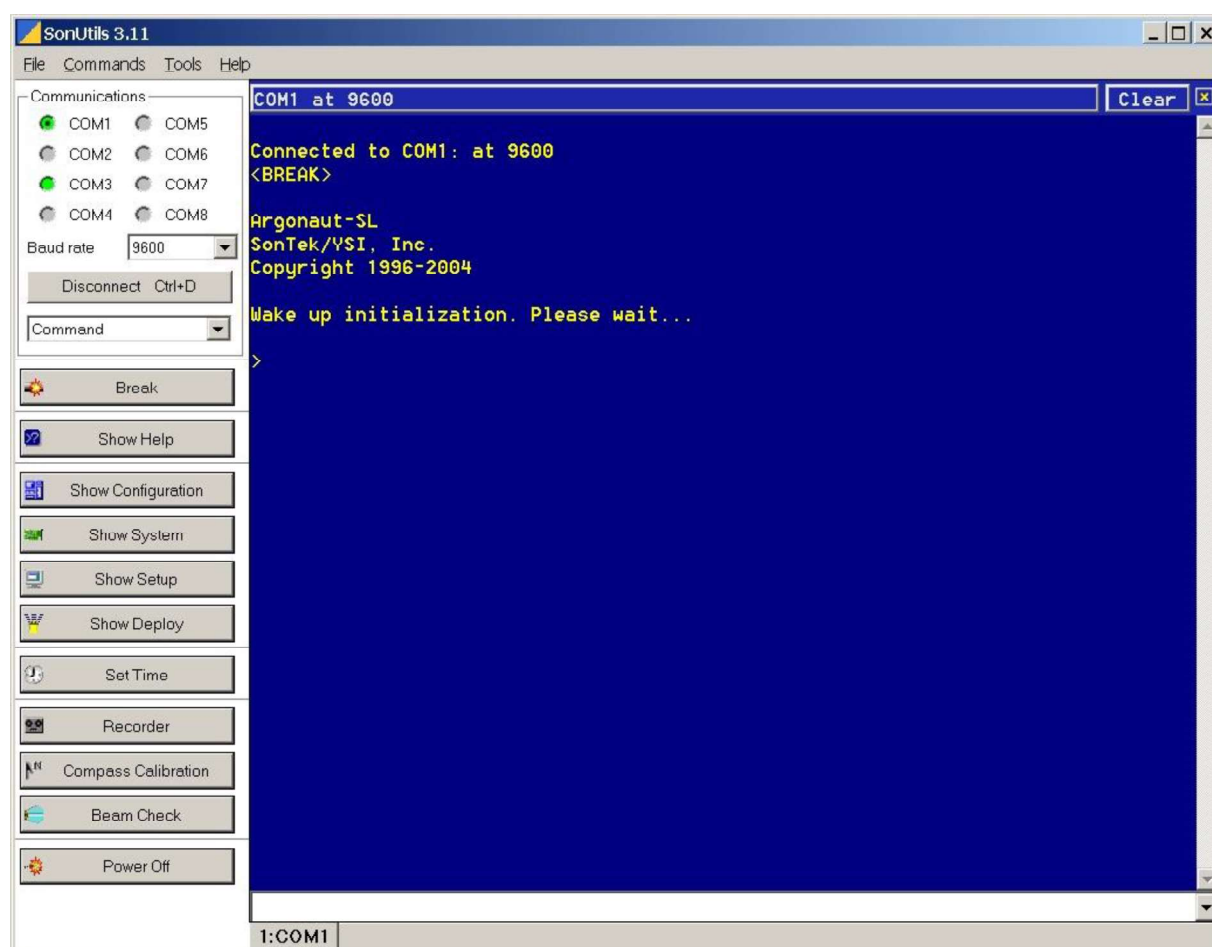

Figure 1-7. Establishing Communications using SonUtils
- _ If necessary, set up the **Communications** parameters within *SonUtils* – typically **COM1**, **Baud Rate 9600** mode (**Figure 1-7**). If you need more information about setting the communications parameters, use **Help|SonUtils Help** and refer to the section on **Communications**.
- _ Click **Break** (or press **Alt+B**) to send the initialization (i.e., wake-up) command to the SL. You should see a copyright/initialization message similar to the one shown in **Figure 1-7**.